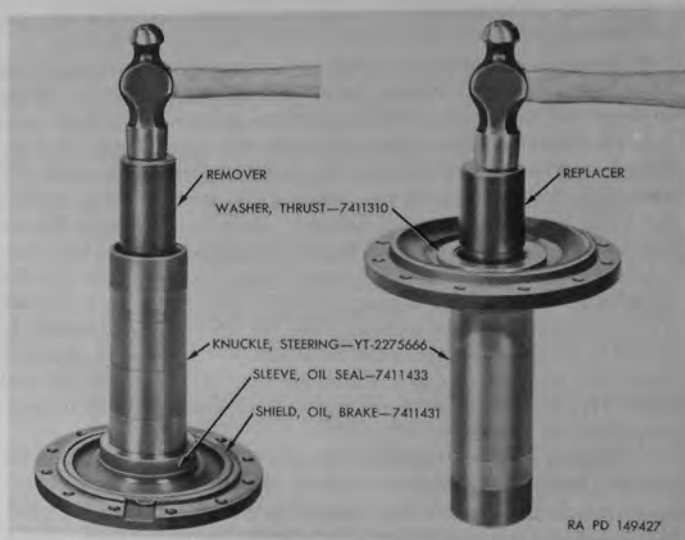
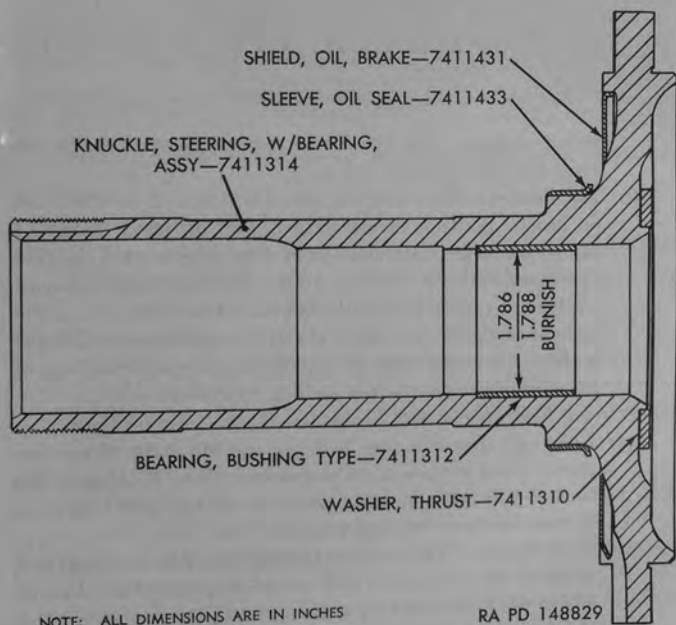
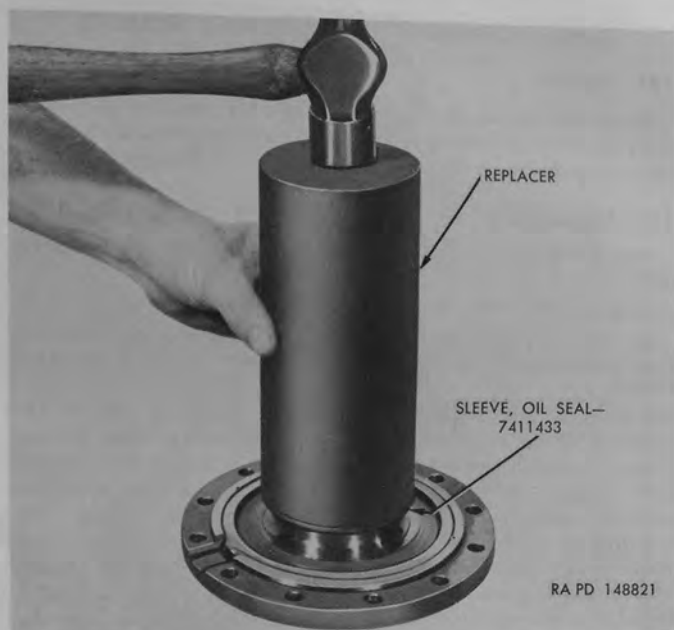

Figure 117. Removing or installing steering knuckle bushing type bearing, using remover 41-R-2369-725 or replacer 41-R-2388-250.
Figure 118. Sectional view of steering knuckle assembly.
Figure 120. Installing oil seal sleeve on steering knuckle using replacer 41-R-2395-518.
b. Steering Knuckle.—Inspect threads for damage and clean up with thread restoring tool, otherwise install new steering knuckle (F) assembly. Inspect bushing type bearing (G) inside steering knuckle for wear, roughness, or other damage. Refer to paragraph 346 for dimensional data, also to paragraph 173*a* whenever inspection indicates that new part should be installed. Inspect thrust washer (H) for wear, roughness, or other damage. Refer to paragraph 346 for thrust washer thickness and paragraph 173*b* for instructions necessary to install new part. Inspect brake oil shield (E) for bent or damaged condition, also for proper installation (fig. 117). Inspect oil seal sleeve (D) for roughness or grooves and replace as directed in paragraph 173*c* if necessary.
c. Steering Knuckle Support.—Inspect steering knuckle (MM) for cracked, broken, or distorted condition. Inspect for stripped or damaged threads in tapped holes. Inspect hole in integral boss to which the tie rod stud attaches for evidence of wear due to loose stud. Install new support if any of the above conditions exist. Inspect $\frac{1}{2}$ -13-20 x $1\frac{5}{16}$ studs (L) for looseness in support, also for damaged or stripped
(1) *Removal.*—Place steering knuckle in arbor press or on bench and use steering knuckle bearing remover 41-R-2369-725 to press or drive bushing type bearing (G) from steering knuckle (fig. 117).
(2) *Installation.*—Place steering knuckle in arbor press or on bench and use steering knuckle bearing replacer 41-R-2388-250 to press or drive bushing type bearing (G) into steering knuckle (fig. 117). Shoulder inside steering knuckle properly locates bearing in its correct position (fig. 118). Burnish or grind bearing to 1.786 to 1.788-inch diameter.
- (1) *Removal.*—Use ball peen hammer and tap entire circumference of outer surface of oil seal sleeves (D). Peening of this surface will cause metal in sleeve to stretch until sleeve can be removed from steering knuckle.
- (2) *Installation.*—With steering knuckle standing on flange end, position oil seal sleeve (D) on steering knuckle. Use replacer 41-R-2395-518 in manner illustrated in figure 120 to drive sleeve onto knuckle until edge of sleeve is flush with shoulder on steering knuckle (fig. 118).
- (1) *Removal.*—Insert screw driver on other similar tool under brake oil shield (E) at slot in steering knuckle; then pry shield from steering knuckle (fig. 117).
- (2) *Installation.*—Position brake oil shield (E) on steering knuckle with lip of shield in steering knuckle slot (fig. 117). Use soft hammer and tap shield until fully seated in knuckle. If necessary, stake knuckle in several places to hold shield in knuckle.